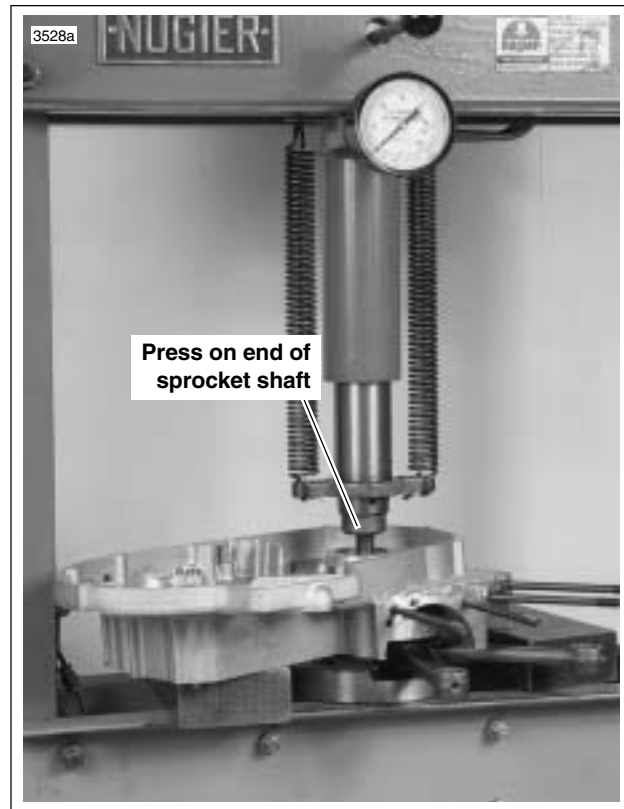

Figure 3-77. Pressing Flywheel from Crankcase
10. See Figure 3-77. Mount the left crankcase half and flywheel assembly on a press table, supporting crankcase on parallel bars. Press on end of sprocket shaft with arbor press until flywheel assembly is free from crankcase half. Do not drive flywheel assembly from crankcase half as flywheels may be knocked out of alignment.
See Figure 3-77. If it is necessary to remove either the pinion shaft bearing (11) or sprocket shaft bearing (4 and 9), proceed as follows: